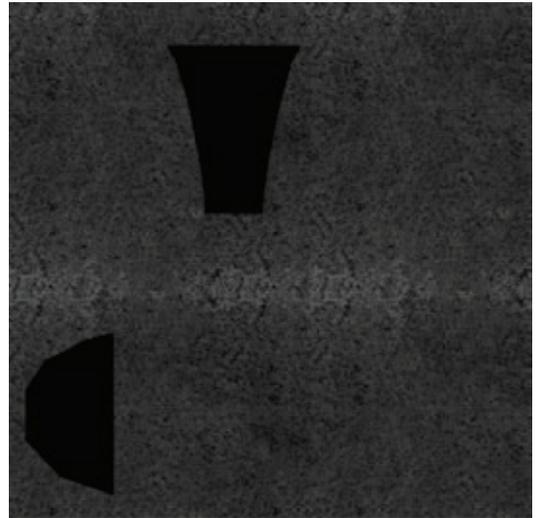

Figure 6.25
3. Ctrl+left-click the Glow layer to load it as a selection. With the duplicate Metal layer still selected, fill the selection with black. Change the duplicate Metal layer's Blending Mode to Normal and rename it **Meta1_Spec**. If you like, you can make a new group folder for this layer called Specular. Save this as your specular texture and call it **Sconce_Specular.tga** (Figure 6.25).